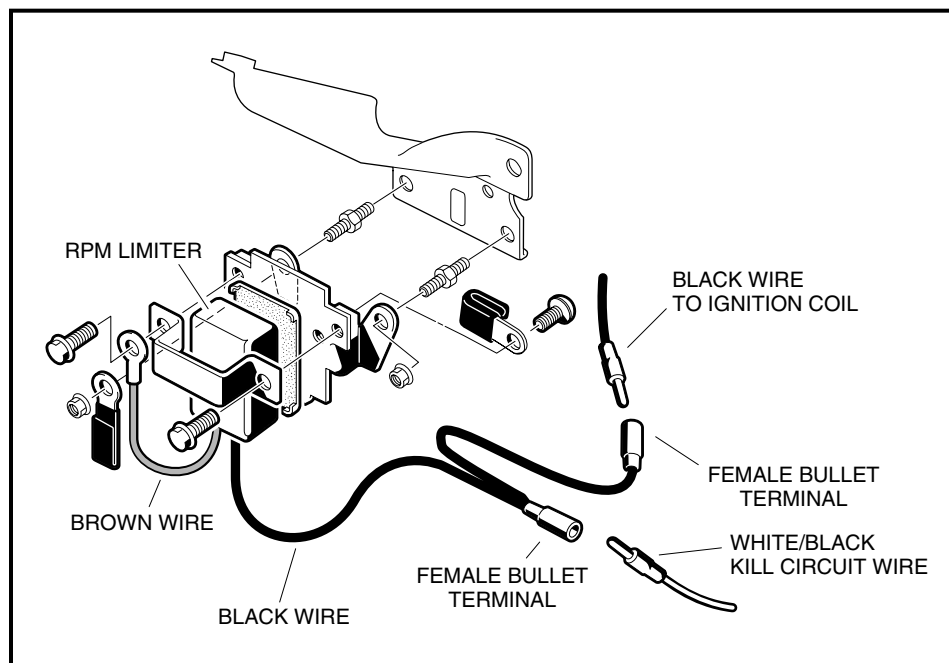

Figure 12b-24 RPM Limiter Assembly
5. Disconnect the white/black wire from the black wire at the bullet connector located near the RPM limiter (**Figure 12b-24, Page 12b-26**).
7. Remove the flange head bolts from the RPM limiter band and remove the RPM limiter and damper (**Figure 12b-24, Page 12b-26**).
1. Place the RPM limiter damper on the front of the RPM limiter mounting bracket (**Figure 12b-24, Page 12b-26**).
2. Place the RPM limiter (2) on the damper squarely so that RPM limiter fits tightly against damper.
3. Place the band (5) over the RPM limiter and align the holes. Place the brown wire ring connector onto the flange head bolt (1) and secure the left side of the band. Use another flange head bolt to secure the other side of the band. Make sure the band holds the RPM limiter securely in place. Tighten fasteners to 7 ft-lb (9.4 N·m).